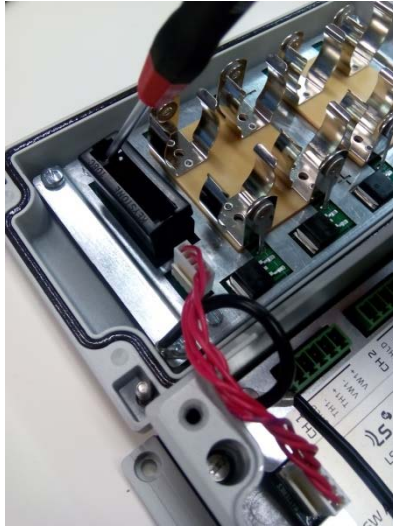

Figure 2: Removal of the upper enclosure of the battery holder.
- b. Insert the RTC battery (small battery included). First remove the upper enclosure of the battery holder (Figure 2). Polarity is indicated inside the holder.